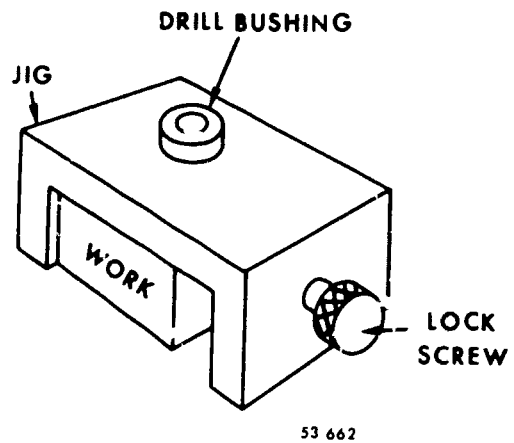

Figure 1-8 Channel jig
**Channel.** The channel jig, shown in figure 1-8, is made for parts with a simple symmetrical shape. The channel jig is hollow and holds the part inside its walls